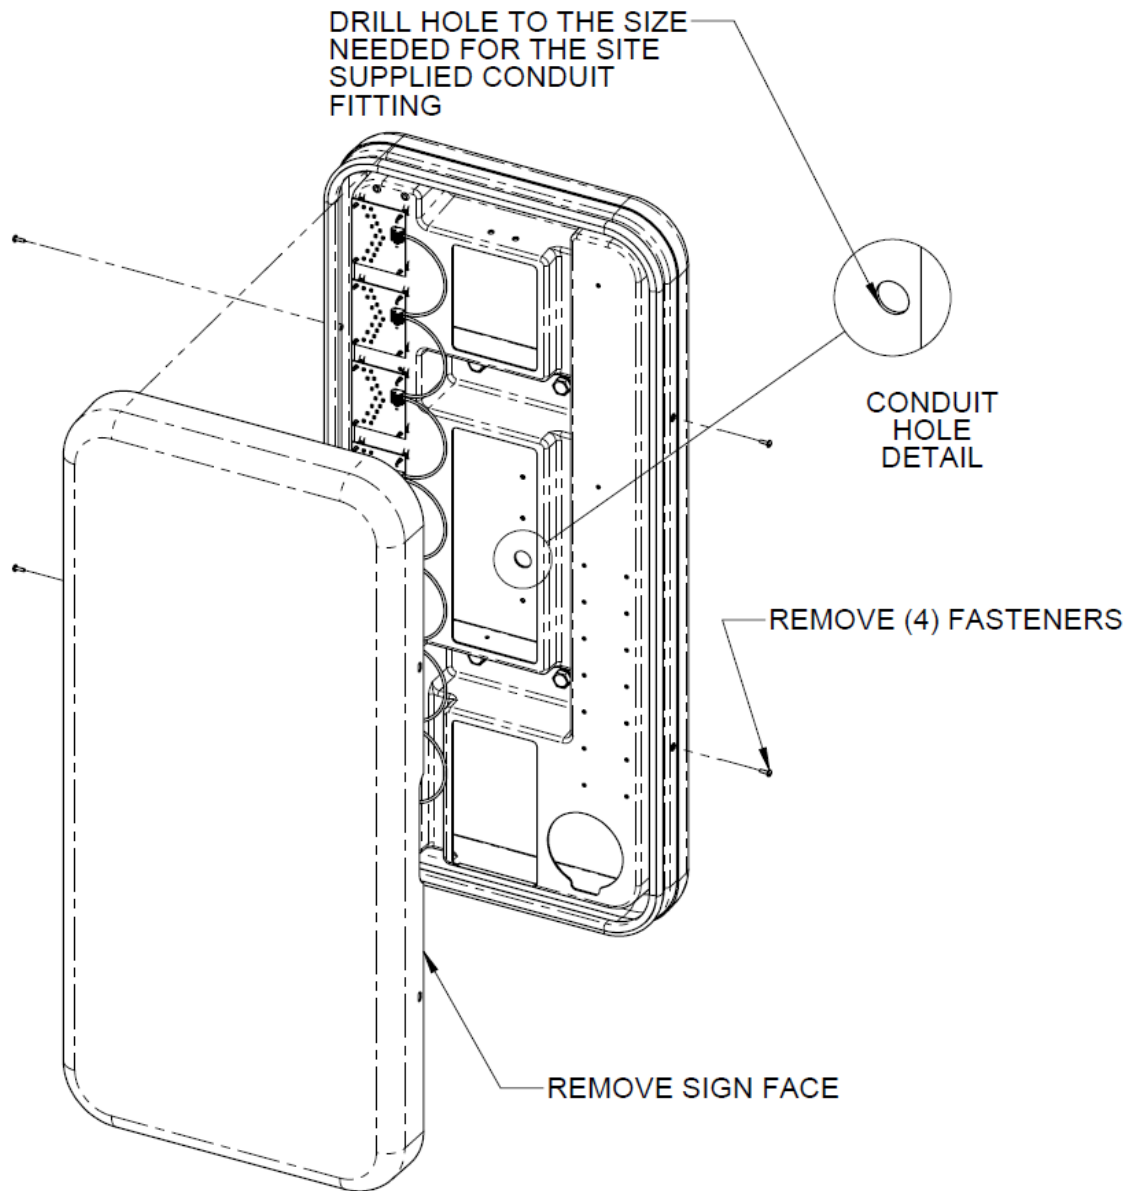
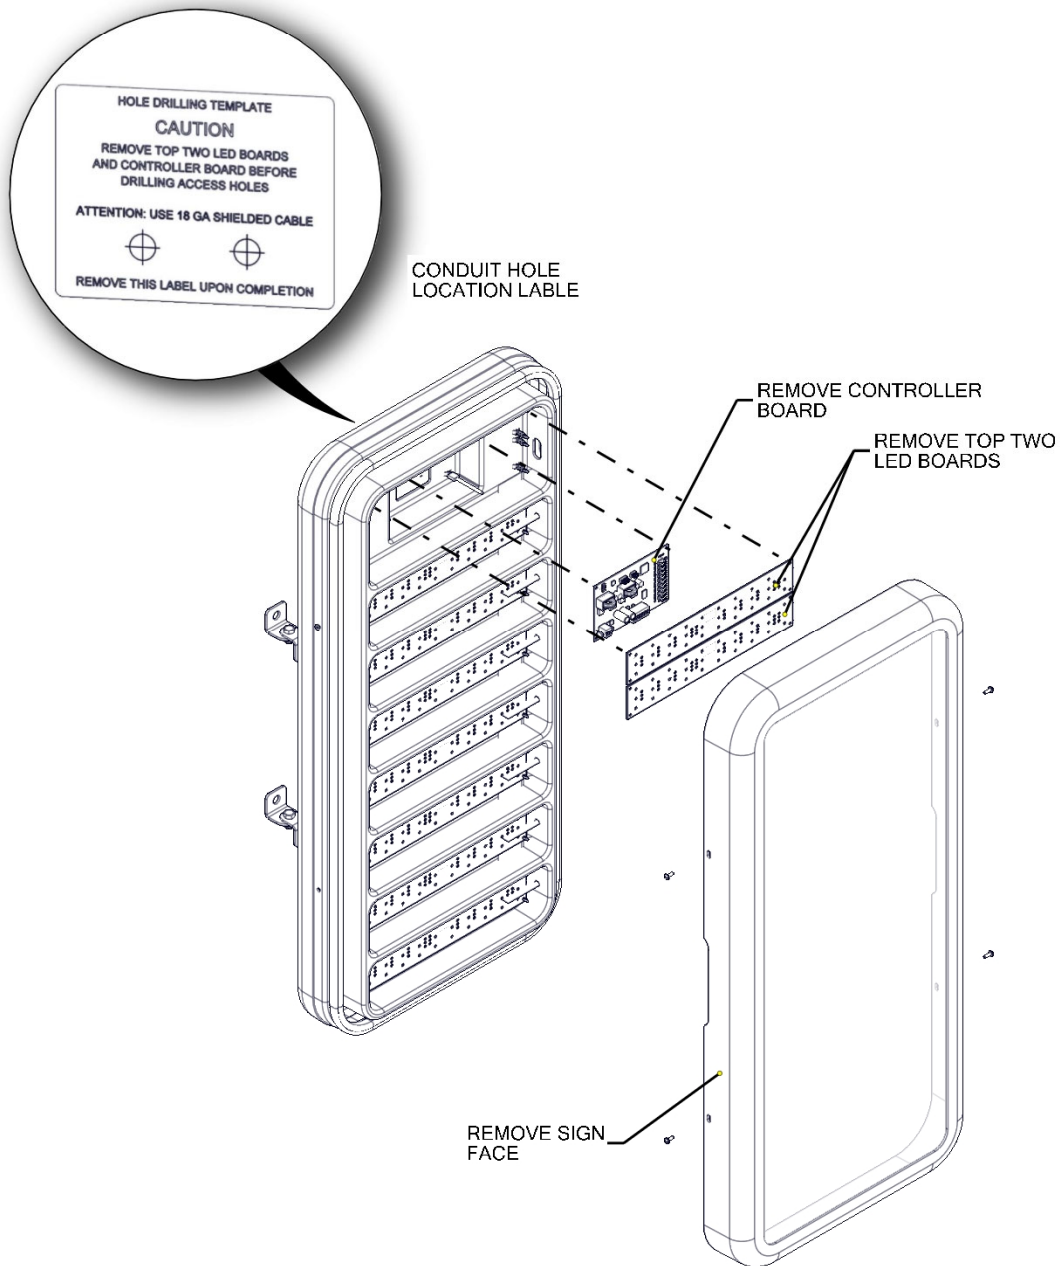

Figure 183 -Service Confirmation Sign Preparation for Installation, Basic or Deluxe
Figure 184 – Advanced Service Confirmation Sign Preparation for Installation
- **Advanced Service Confirmation Sign Only** - Remove top two LED boards and controller board before drilling access holes. Figure 184.
- The back cover of the sign enclosure has center marks to aid in the drilling process. Drill one hole to the size needed for the site supplied conduit connector. See the detail view in Figure 183 or Figure 184.